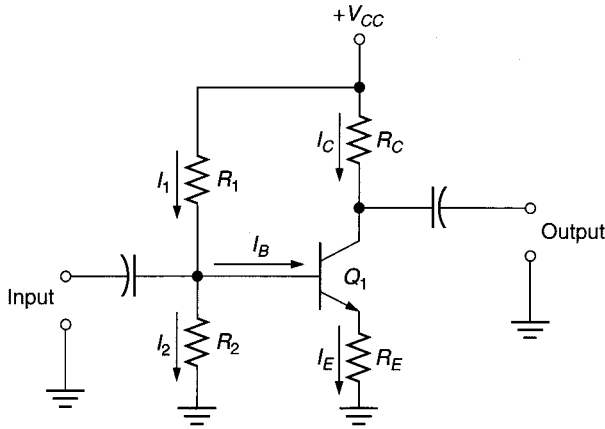

FIGURE 7.14 Voltage-divider bias.
**Voltage-divider bias** is by far the most commonly used biasing scheme. As shown in Figure 7.14, voltage-divider bias is similar in form to base bias, with the following exceptions: